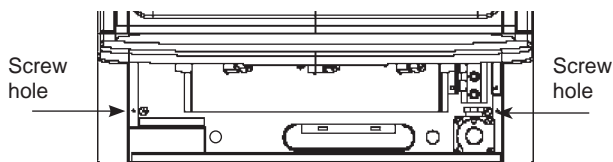

Figure 10
1. Locate two bottom mounting holes. These holes are near bottom on back panel of heater (see figure 10).